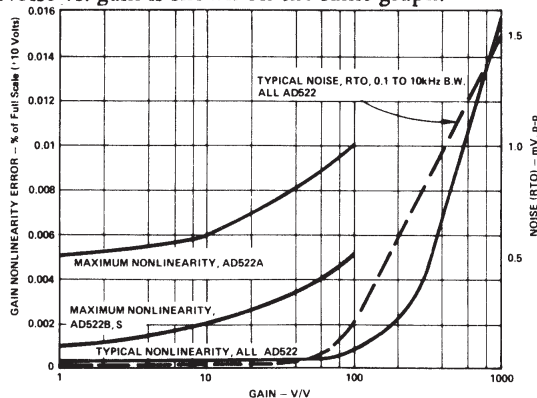

Figure 4. Gain Nonlinearity and Noise (RTO) vs. Gain
Voltage Noise, RTI (see Fig. 4)
**Gain Nonlinearity and Noise:** Gain nonlinearity increases with gain as the device loop-gain decreases. Figure 4 is a plot of typical nonlinearity vs. gain. The shape of the curve can be safely used to predict worst-case nonlinearity at gains below 100. Noise vs. gain is shown on the same graph.